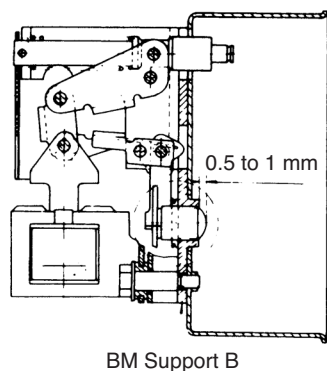

Fig. 3 Adjustment screw backup amount
- ② Return the adjustment screw end until it extends about 0.5 to 1 mm beyond the surface of BM Support B. When the screwdriver is removed in this state, the spring force causes the adjustment lever to engage with the adjustment screw teeth. (Fig. 3)